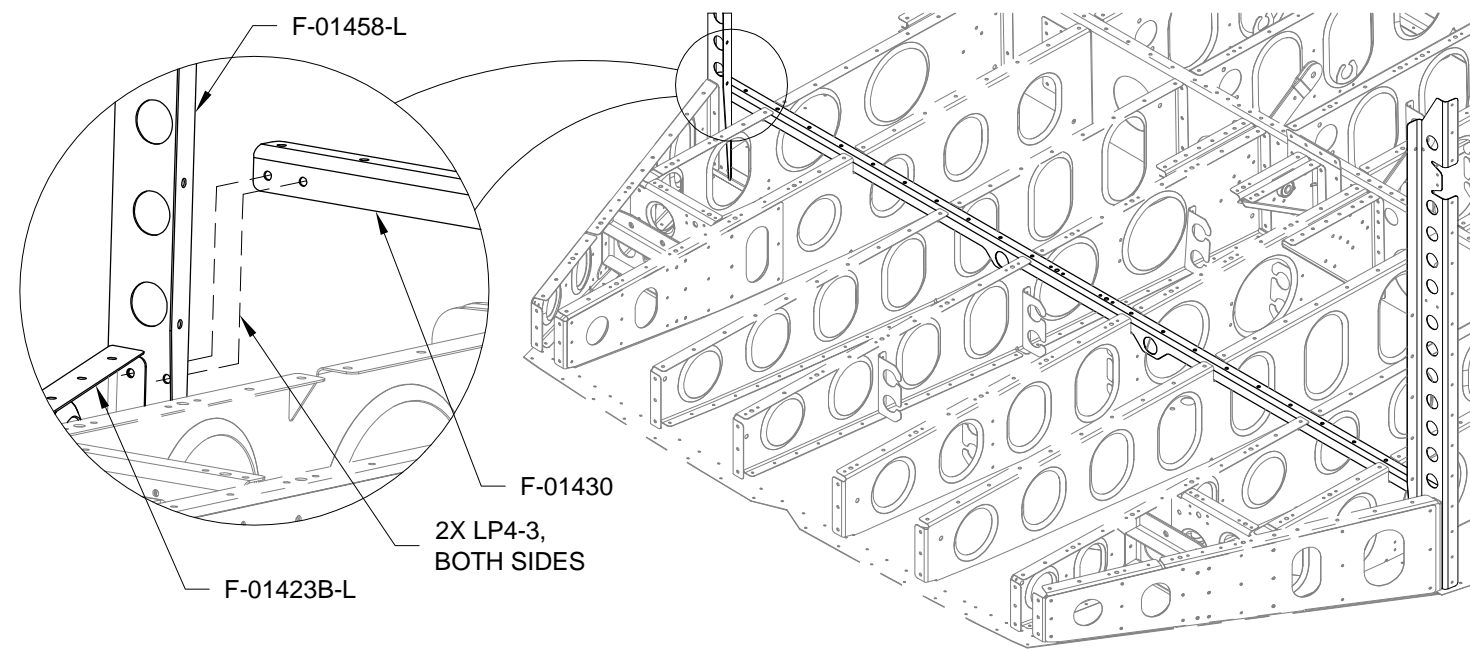

FIGURE 3: INSTALL FLOOR STIFFENER
Step 5: Rivet the F-01430 Baggage Floor Stiffener to the F-01458-L Side Frame and F-01423B-L Outbd Baggage Rib as shown in Figure 3.